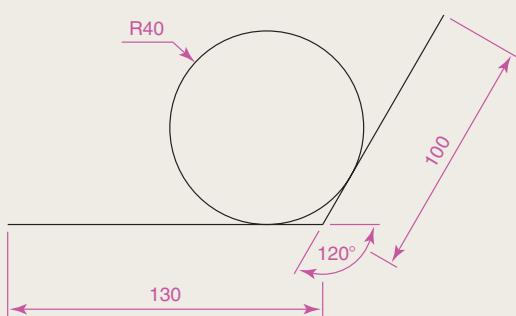

Fig. 2.33 Exercise 6
6. Using the **Line** tool construct the two lines at the length and angle as given in Fig. 2.33. Then with the **Ttr** prompt of the **Circle** tool, add the circle as shown.